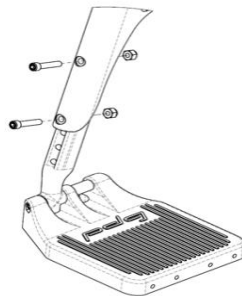

Figure 12.3: Standard Swing-Away footrest height adjustment
1. Remove any padding and/or calf strap, if fitted. Remove the fasteners and nuts as shown in Figure 12.3